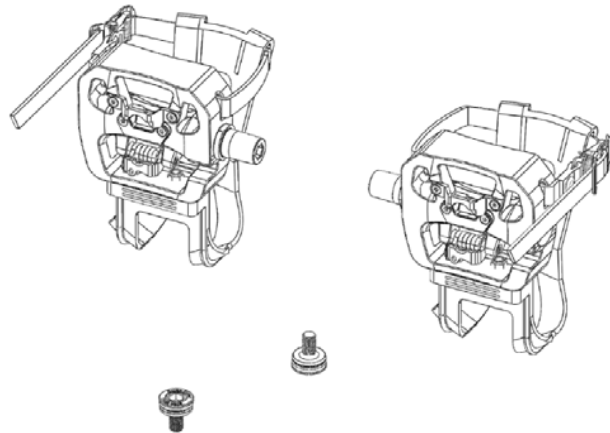

Fig. 22
22. Locate the set of pedals along with the corresponding hardware (Fig. 22).